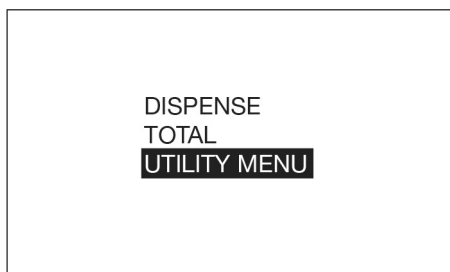

FIG. 11
2. Select the UTILITY MENU option (Fig. 11). (Instructions for accessing Menus are provided in **Menu Screens**, page 18).